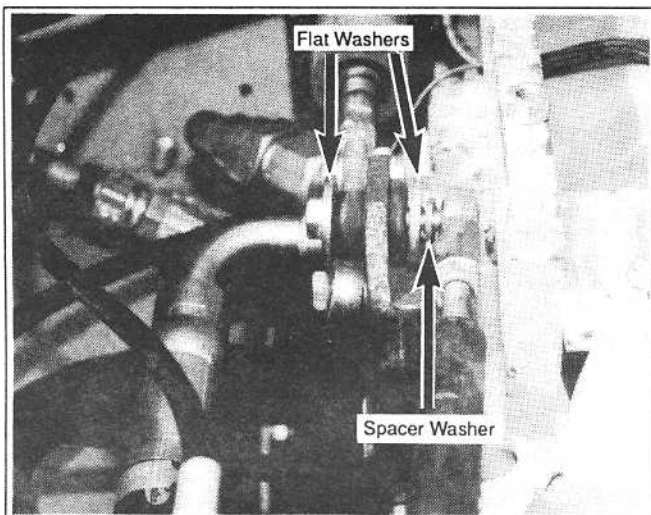

Figure 3-2
A. Be sure flat washers and spacer washers are in proper location, the rubber mount is in good condition and the mounting bolt is tight. (See figure 3-2)